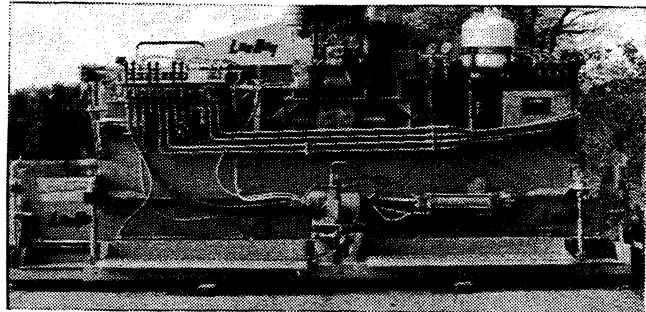

Figure 4-10 – Ready to Pave
5. Lower screed onto starting blocks (See Figure 4-10).